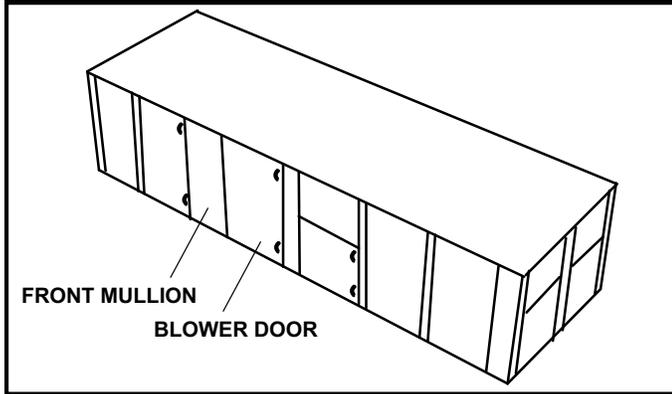

FIGURE 8
- 1- Remove blower door on front of unit. See figure 8 and 9.